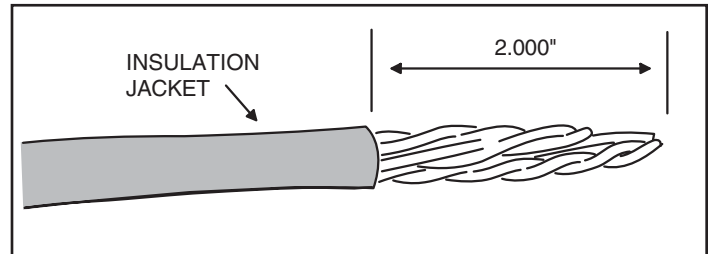

Figure 1. Strip Back the Cable Jacket
**STEP 1** Strip back the outer insulation jacket of the Cat-5 cable 2 inches to expose the four color-coded twisted wire pairs inside. See Figure 1.